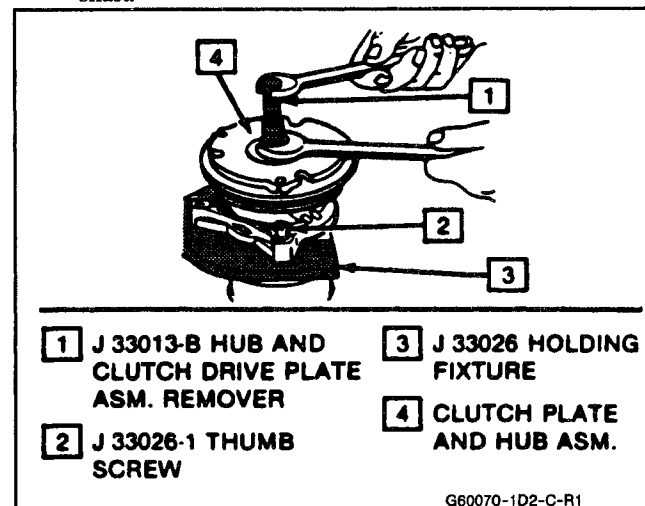

Fig. 3 Clutch Plate and Hub Assembly Removal
1. Clamp the holding fixture J 33026 in a vise and attach compressor to holding fixture with thumb screws J 33026-1 (Fig. 3).
center screw into the remover body to remove the clutch plate and hub assembly (Fig. 3).